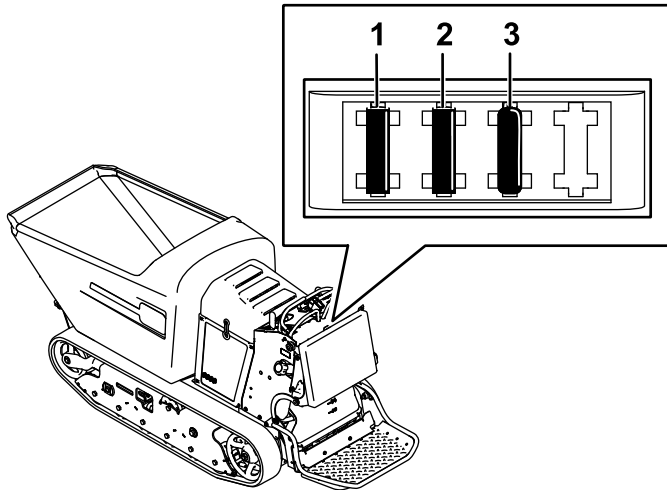

Figure 38
2. Pull out the fuse to remove or replace it (Figure 38).
Note: Ensure that the correct-size fuse is installed (Figure 38).